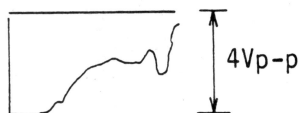
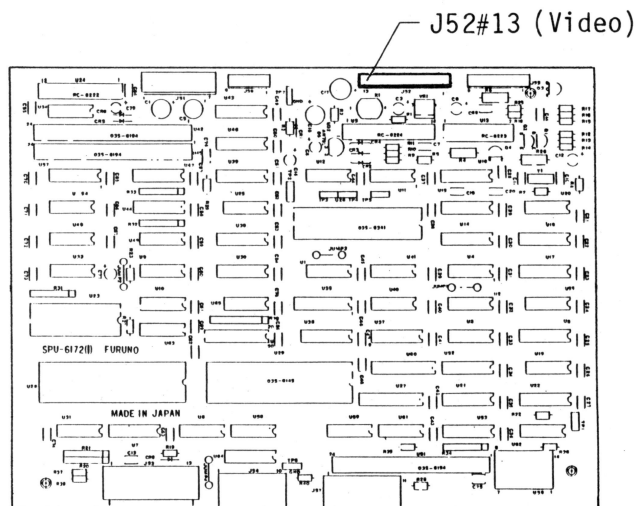

Fig.4-11 Video signal at pin#13 of J52 on the PROCESSOR Board
Fig.4-12 PROCESSOR Board (SPU-6172) solder side
- 2) Measure the receiving signal (video signal) at pin #13 of J52 on the PROCESSOR board by using an oscilloscope. See Fig.4-12. If the signal shown in Fig.4-11 is not obtained, the IF AMP. board may be faulty.
- 3) If the signal shown in Fig.4-11 is obtained, the PROCESSOR board is faulty. See Fig.4-12.